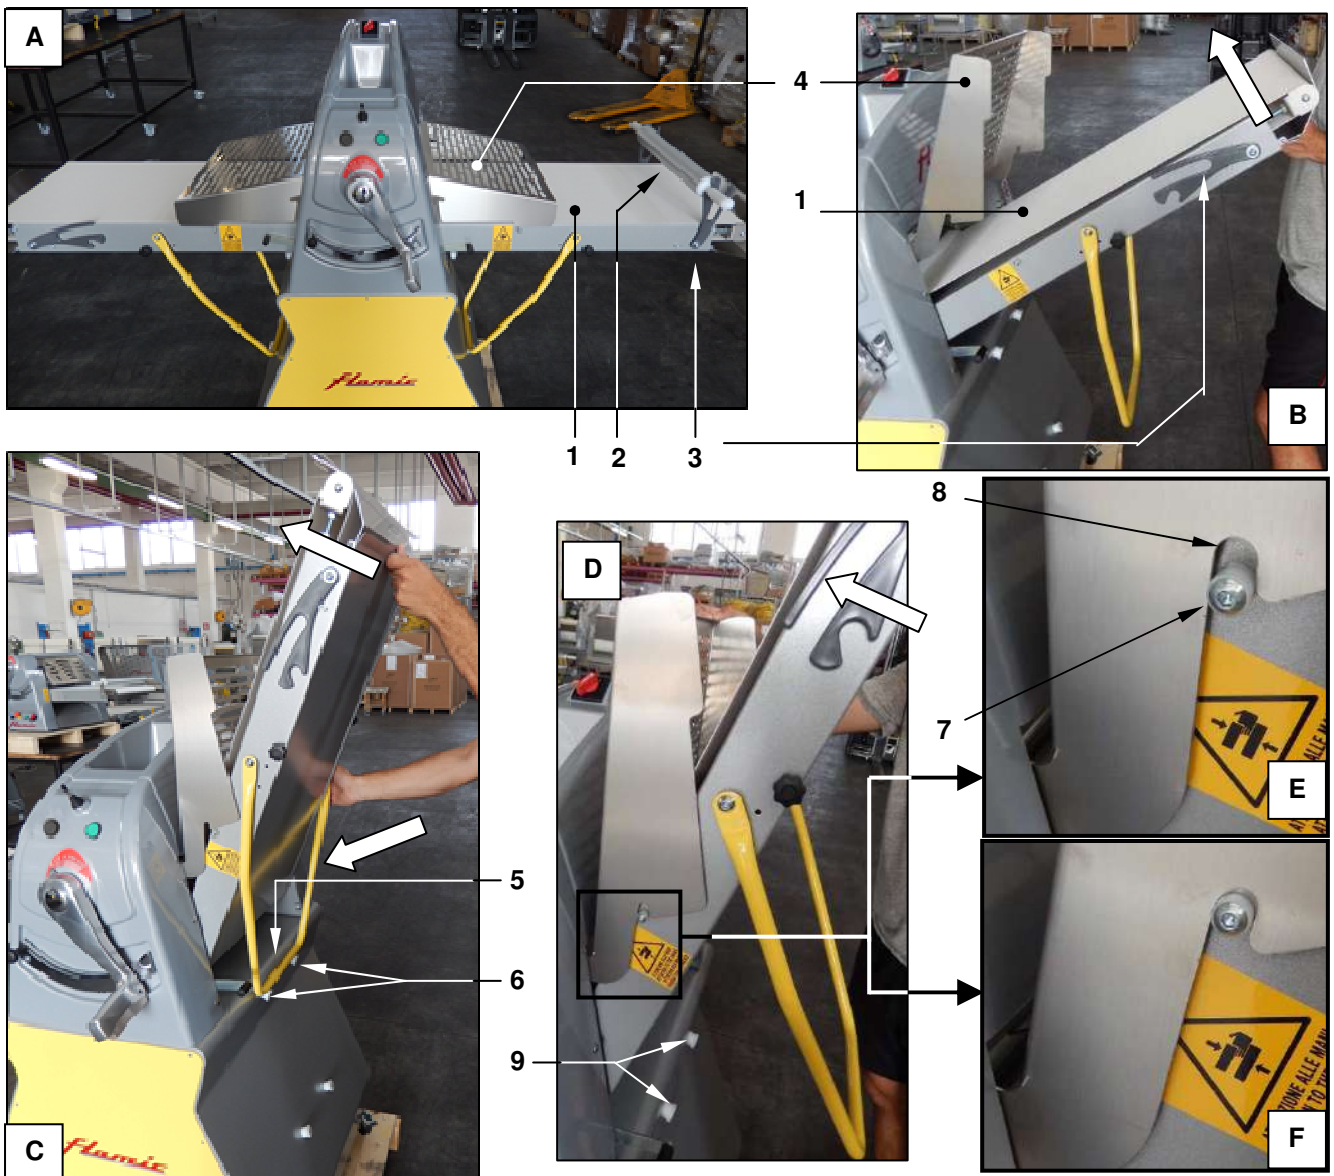

Figure 17 - Raising/lowering the benches (mod. SF500)
With reference to Figure 17, to move a bench ref. 1 from the position shown in photo A to the position shown in photo C or F:
- remove any rolling pins ref. 2 there may be and lower the relative supports ref. 3
- raise the guard ref. 4 completely (see section 3.5.1)
- raise the bench ref. 1 (photo B)
- for table lengths of ≤ 850 mm: whilst keeping the table raised with one hand, with the other, place the horizontal bar of the support ref. 5 onto the blocks ref. 6 (photo C)
- for table lengths of > 850 mm: whilst one operator keeps the table raised with both hands, the other operator should place the horizontal bar of the support ref. 5 onto the blocks ref. 6